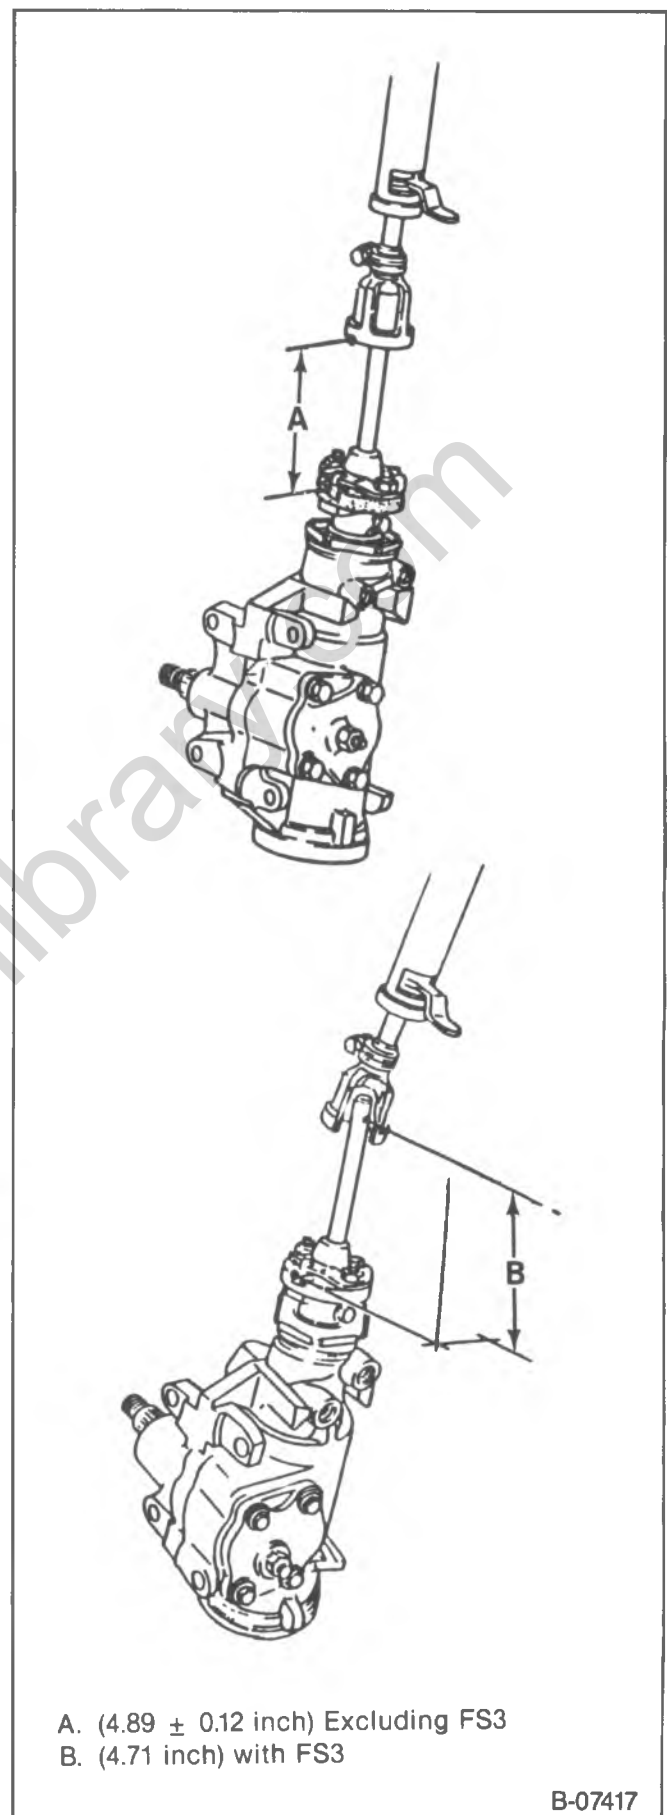

Figure 42—Coupling Assembly Measurement
- Coupling assembly dimensions (figure 42). Raise or lower steering column if necessary.